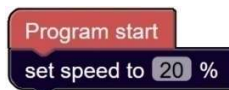

Figure 2
1. You should include the Ozobot Editor block shown in Figure 2 at the beginning of your program, perhaps right after the *Program start* block or in a function where you initialize a number of things required by your solution to the challenge. Why? When ORA is moving at a slower speed, say 20% or less, you have more time to prevent an impending collision. Of course, this also allows a person more time to move out of the way of ORA's moving arm! This is particularly important throughout the development process while creating your program, when you are more apt to make errors in coordinate values in *move to coordinates* blocks.